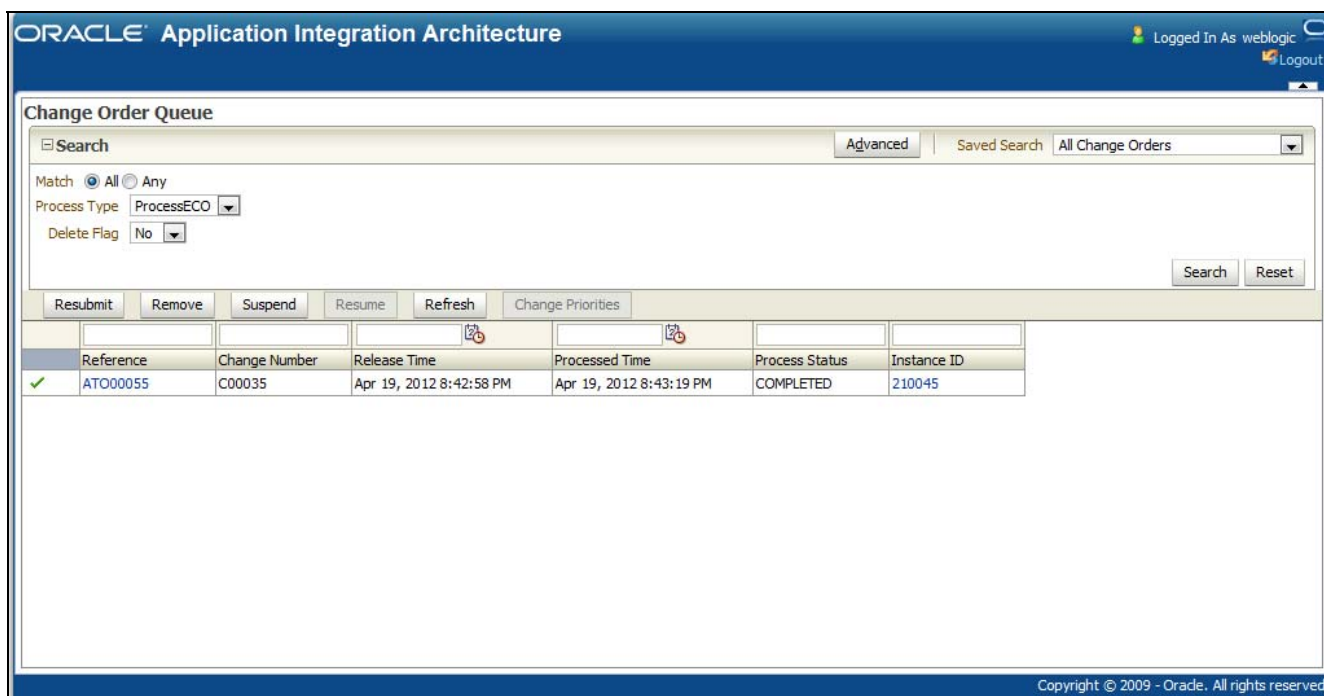

Figure 1
1. Figure 1: Administrator role view of the Queue UI application.